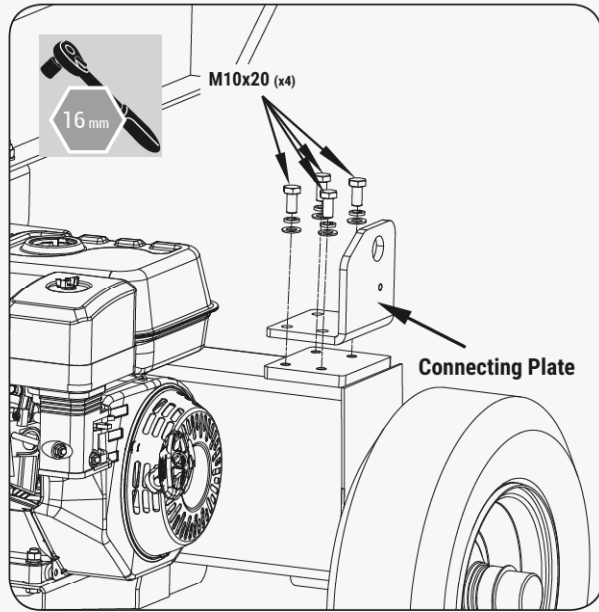

Figure 19
1. Assemble the connecting plate onto the tank, taking care to ensure the correct bending direction of the plate. (See **Figure 19**.)